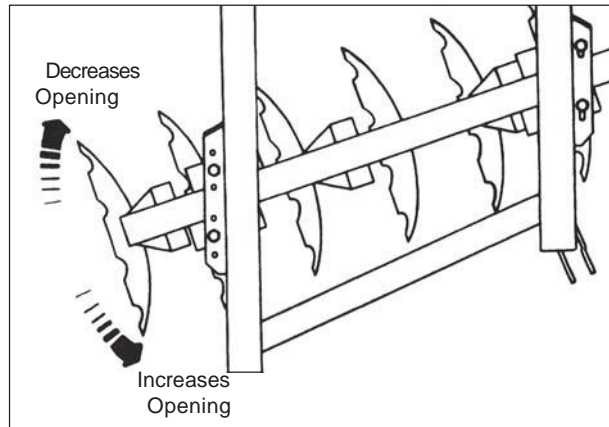

FIGURE 15
ADJUSTMENT OF GRID OPENING (FIGURE 15)
- In the land of greatest difficulty penetration, increases the grid opening, as shown in **FIGURE 15**.